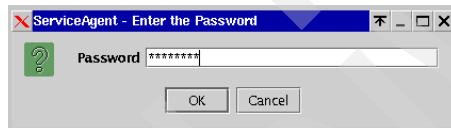

Figure 12-1 Service Agent – Enter the Password
12. When prompted to enter a password as shown in Figure 12-1, type the default password (password), then click **OK**.